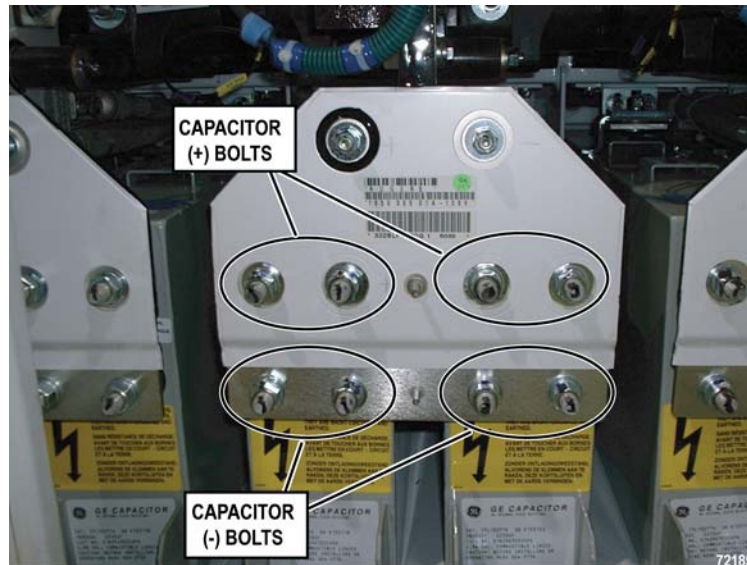
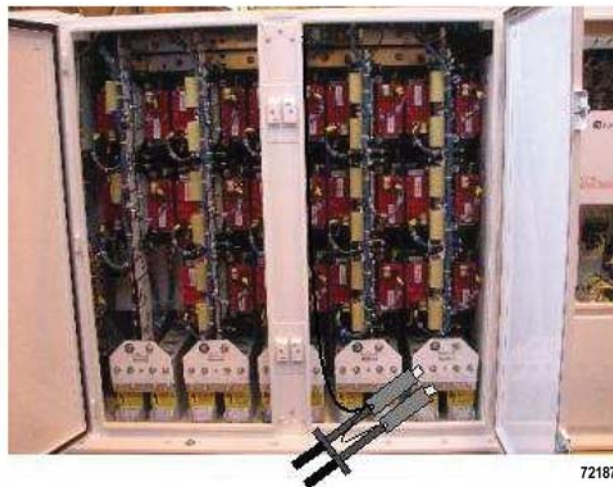

FIGURE 20-10. CAPACITOR TERMINAL POLARITY
FIGURE 20-12. APPLICATION OF GROUNDING STICKS TO CAPACITOR TERMINALS
2. With a suitable high voltage meter rated for at least 2000 VDC, such as PC3186 or equivalent, plus suitable protective equipment, measure the voltage across each of the DC link capacitors. Place one meter lead on the positive (+) capacitor terminal, and the other meter lead on the negative (-) capacitor terminal, and observe the voltage. See Figure 20-9 and Figure 20-10. If the voltage is less than 1.0 V the capacitor is sufficiently discharged. Repeat on all DC Link capacitors. If the voltage of any capacitor is above 1.0 V, manually discharge the capacitor as described in "MANUAL DISCHARGE OF CAPACITORS" on page 19.
3. Discharge the relevant capacitors. Open the door(s) and place one grounding stick on one of the positive (+) capacitor terminals and the other on the diagonally located negative (-) terminal. Refer to Figure 20-10 and Figure 20-12. Attempt to minimize the time between application of the positive stick and the negative stick so that the current flow will be positive to negative rather than either to ground. Leave sticks in place until capacitors are discharged. Refer to Figure 20-12.